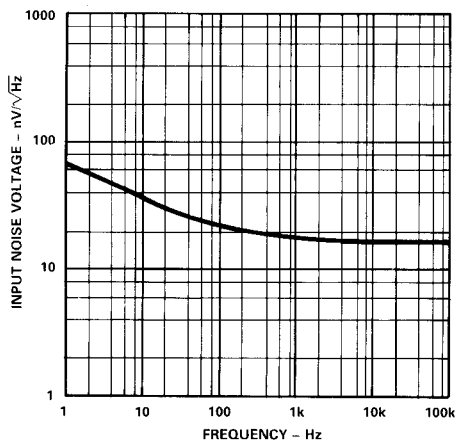

Figure 4. Input Noise ( $\text{nV}/\sqrt{\text{Hz}}$ ) vs. Frequency (Hz)
**Input Noise.** Figure 4 presents the typical input noise characteristics, in  $\text{nV}/\sqrt{\text{Hz}}$ , of the AD203SN for a frequency range from 1 Hz to 100 kHz.